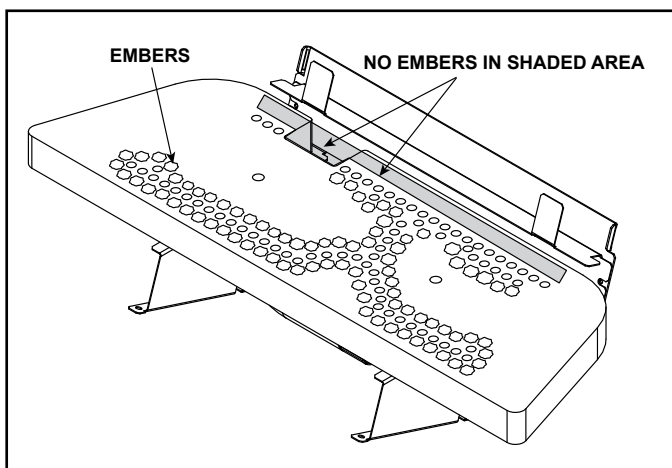

Figure 11.3 Placement of Embers
- Embers may only be placed in areas as shown in Figure 11.3.